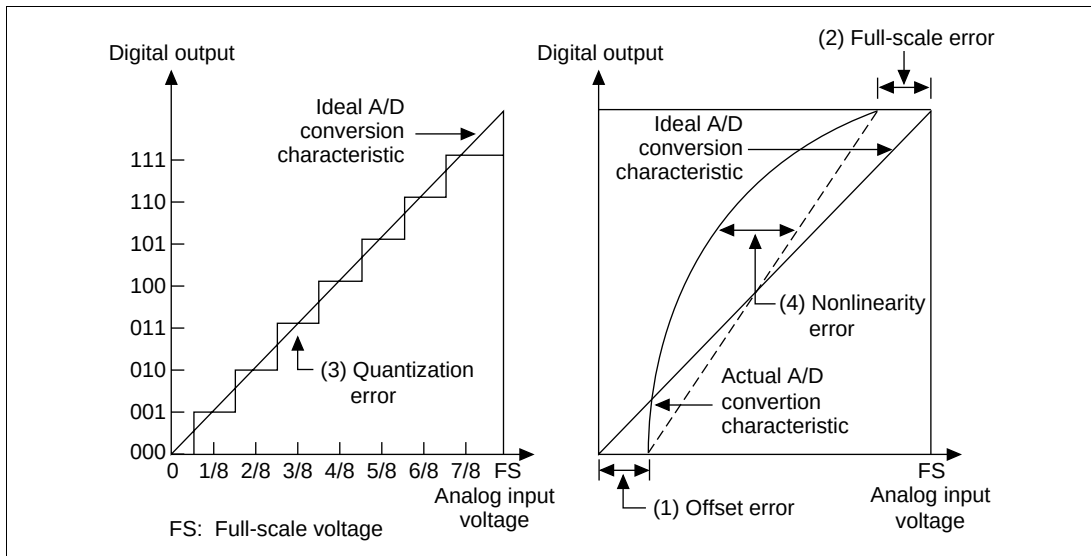

**Figure 14.7 Definitions of A/D Conversion Accuracy**
These four error quantities are explained below using figure 14.7. In the figure, the 10 bits of the A/D converter have been simplified to 3 bits.
Offset error is the deviation between actual and ideal A/D conversion characteristics when the digital output value changes from the minimum (zero voltage) 0000000000 (000 in the figure) to 0000000001 (001 in the figure)(figure 14.7, item (1)). Full-scale error is the deviation between actual and ideal A/D conversion characteristics when the digital output value changes from 1111111110 (110 in the figure) to the maximum 1111111111 (111 in the figure)(figure 14.7, item (2)). Quantization error is the intrinsic error of the A/D converter and is expressed as  $1/2$  LSB (figure 14.7, item (3)). Nonlinearity error is the deviation between actual and ideal A/D conversion characteristics between zero voltage and full-scale voltage (figure 14.7, item (4)). Note that it does not include offset, full-scale, or quantization error.